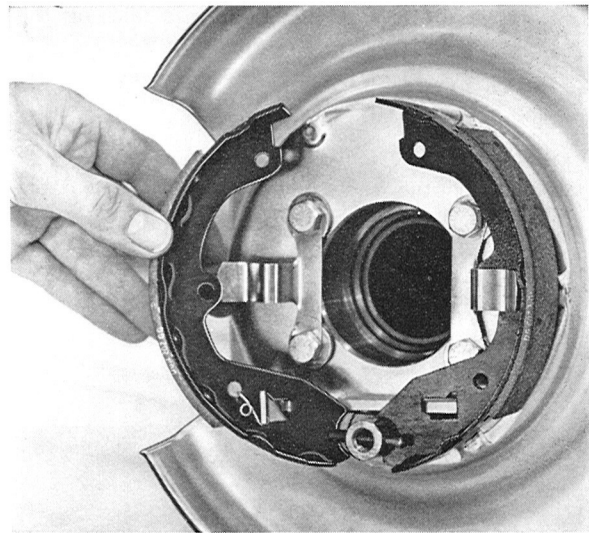
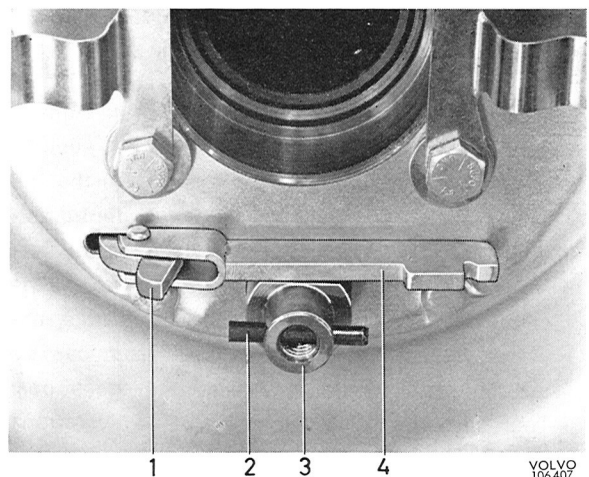
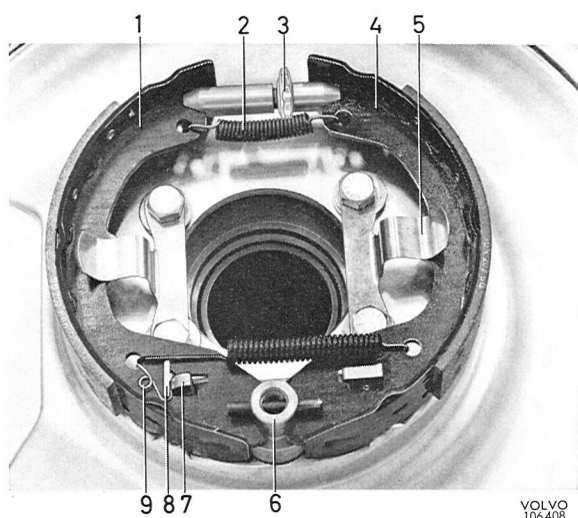

Fig. 5-82. Installing brake shoes
Fig. 5-83. Brake parts
Fig. 5-84. Parking brake
5. Remove both the return springs and the adjusting device. Lift forward the shoes, see Fig. 5-82. Manipulating the links will facilitate removal.
2. Coat the 6 guide lips on the backing plate as well as the lever joint and adjusting screw with heat-resistant graphite grease intended for this purpose. Check that the lever and anchor bolt parts are correctly installed, see Fig. 5-83. Check that the washer (8, Fig. 5-84) and the spring (9) are in position on the primary shoes.
3. Install the brake shoes, see Fig. 5-82. The shorter sleeve on the adjusting device should be turned forwards on the right-hand side and backwards on the left-hand side, see Fig. 5-84.